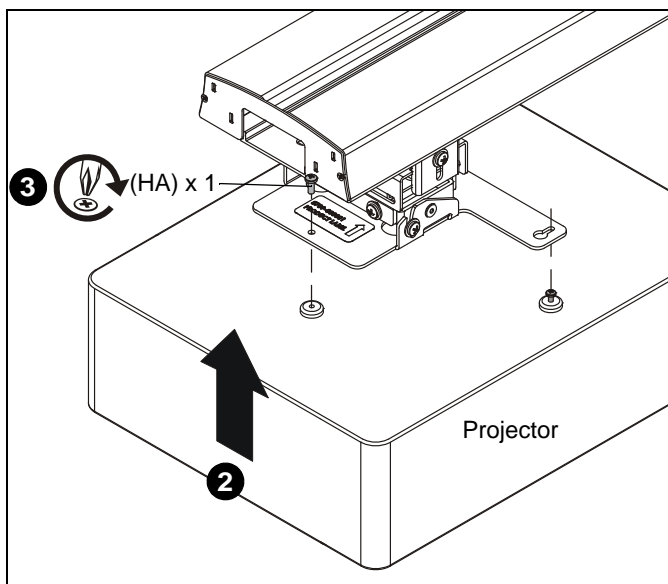

Figure 14
2. Raise the projector up to the projector arm and slide two screws into slots on the projector arm. (See Figure 14)
3. Add one remaining M4 x 8mm Phillips pan head screw (HA) through the projector arm and into the projector. (See Figure 14)